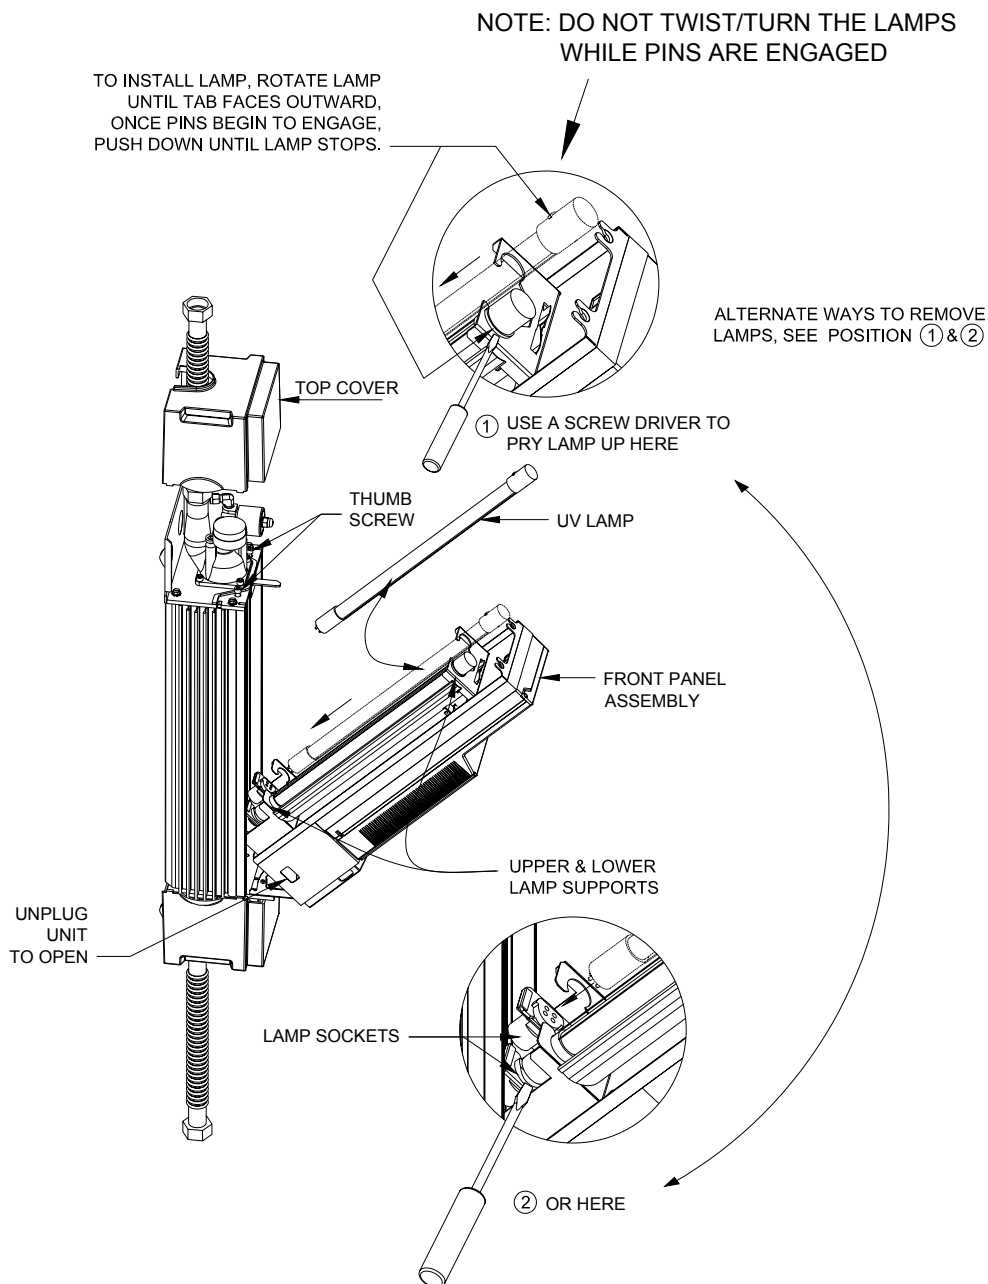

Figure 3
See Figure 3.
Step 3: Slowly lift the old lamps out of the unit. **Do not twist the lamps when they are installed.** For assistance in this task, use a flat screwdriver and pry the lamps up either below tabs at the top of the lamp or between lamp base and socket (see Figure 3). Dispose of the old lamps in the same way as you would dispose of ordinary fluorescent tubes. Note that old lamps should be disposed of at a household waste management depot or transfer station; contact your local recycling and waste management authority for proper disposal procedures in your area.
Step 4: Install the new lamps into the unit, being careful not to touch the bulb. Align the tab of the lamp to face the outside of the unit, as shown in Figure 3. Once the pins of the lamp begin to engage into the lamp socket, push firmly down on the top of the lamp. **Do not twist the lamps when they are installed.** The lamp will come to rest when the lamp pins are fully inserted into the socket. When pressing down, be sure to position the lamp ceramic end in the centre of the hole in the lamp holders. Repeat for the other side.